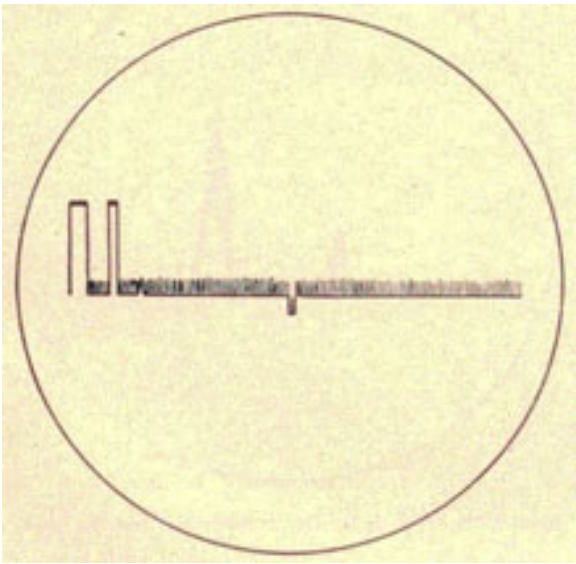

Figure 4 Mk. 3/Mk. 4-6. Double range echo.
6. After securing the zero adjustment nuts, the transmitted pulse is cranked back to the notch and placed as though making a zero set. The minus zero set is noted when the transmitted pulse is as shown in figure 4 Mk. 3/Mk. 4-5.